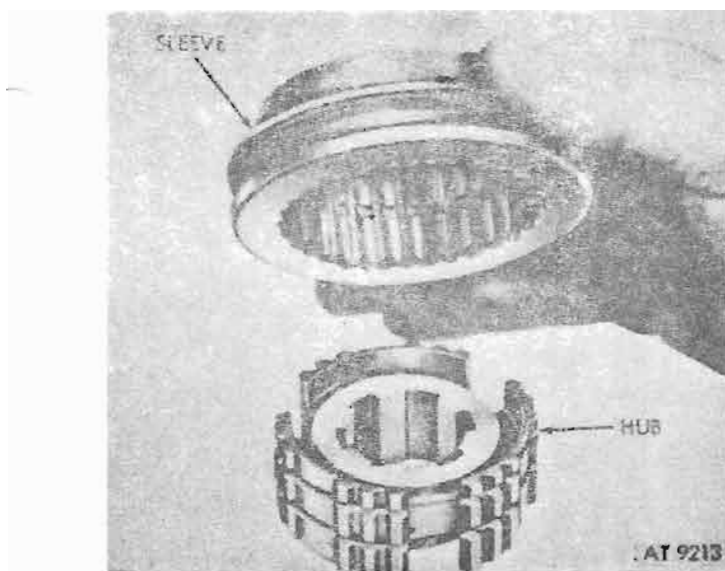

Figure 8-80. Synchronizer sleeve and hub.
c. Remove sleeve from synchronizer hub (fig. 8-80).
a. Position hub on clean surface and install sleeve on hub. Refer to figure 8-80.
c. Using needle-nosed pliers install front and rear springs. Refer to figure 8-80.